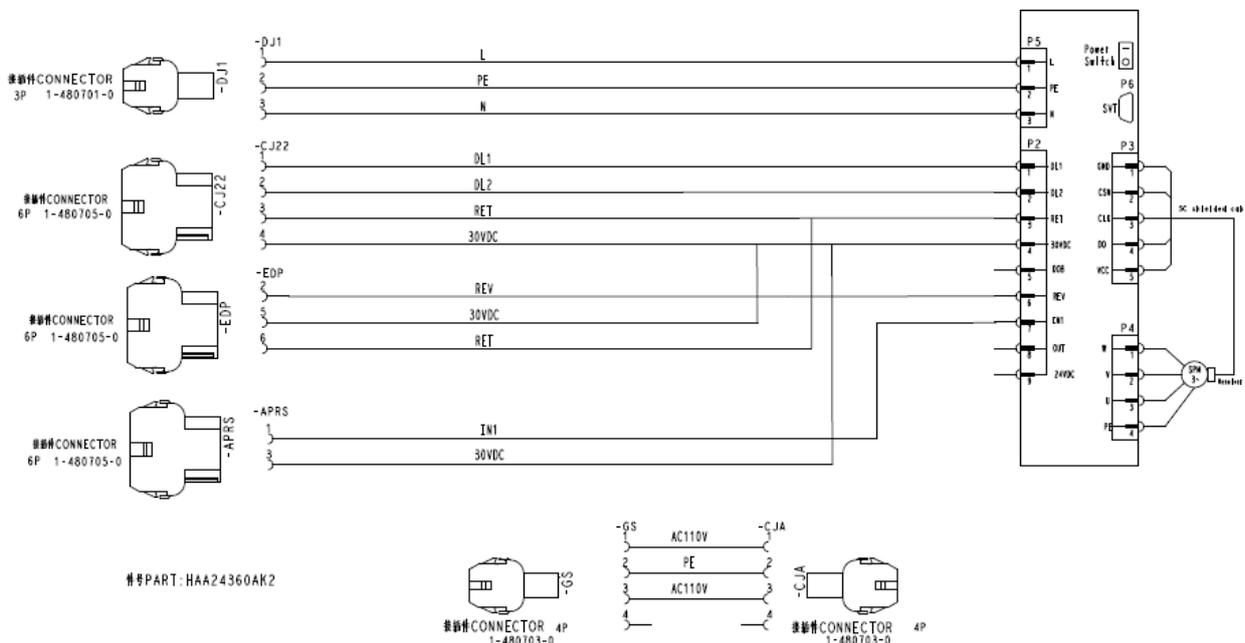

Fig.2-2 Wiring of HAA24360AK2,HAA24360AK4 controller
2.1.2 Wiring of HAA24360AK2,HAA24360AK4 controller components (as shown in Fig.2-2)